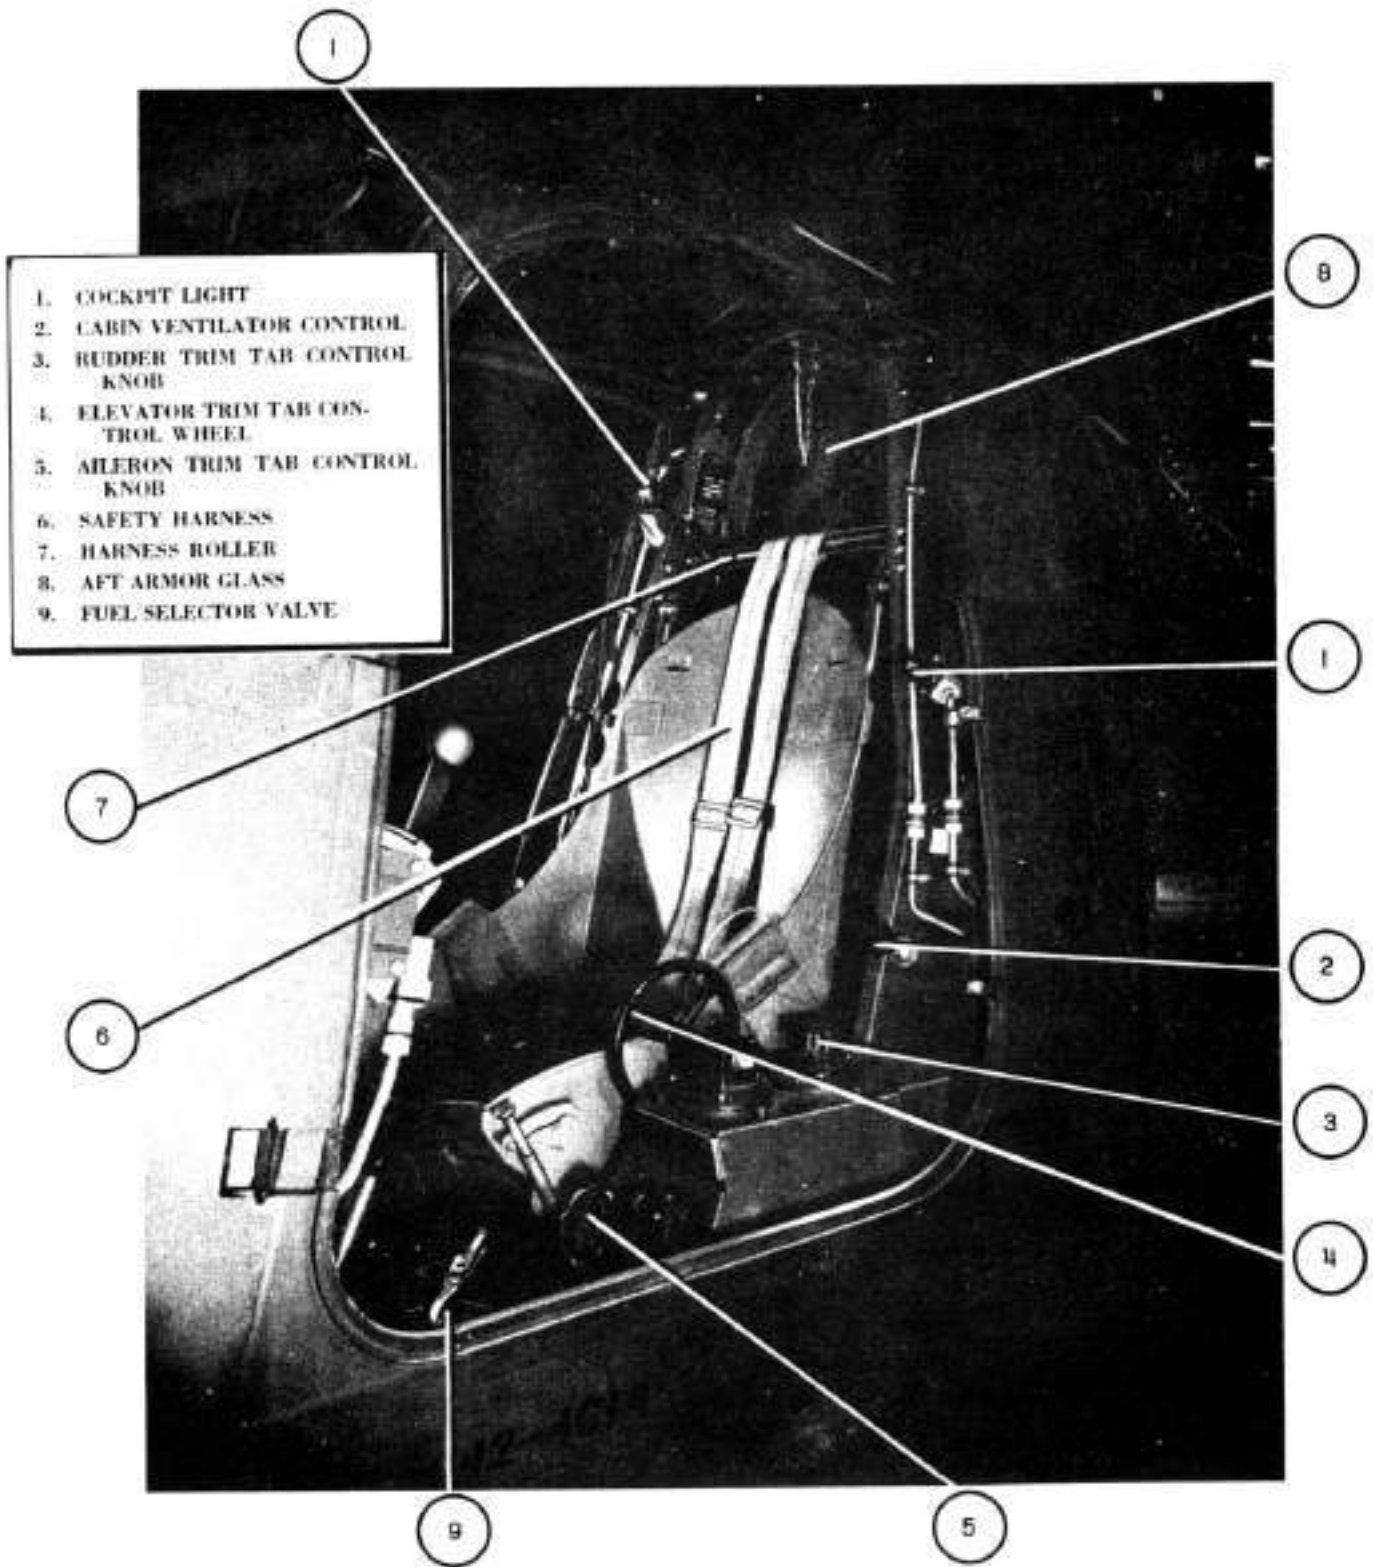

Figure 9—Turnover Beam, Left Hand Side
d. Turn Fuel Selector Valve (Fig. 9—9) to "RES. TANK."